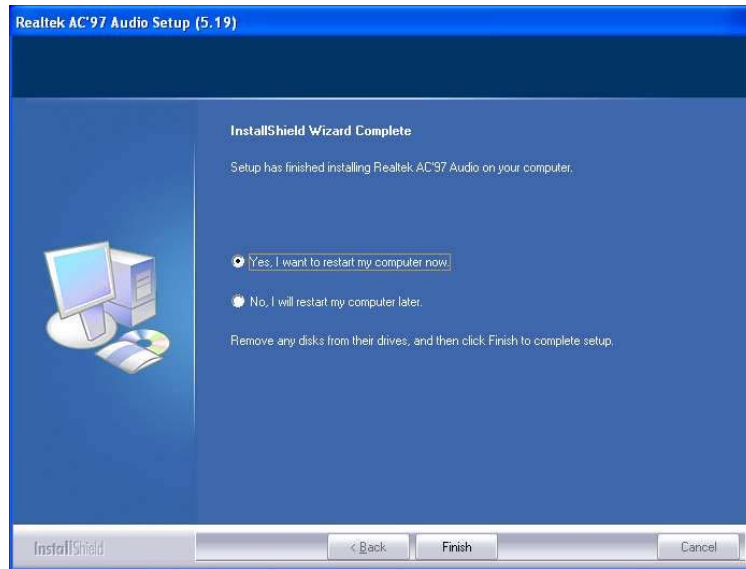

Figure 7-23: Restart the Computer
Step 9: After the driver installation process is complete, a confirmation screen appears (Figure 7-23).